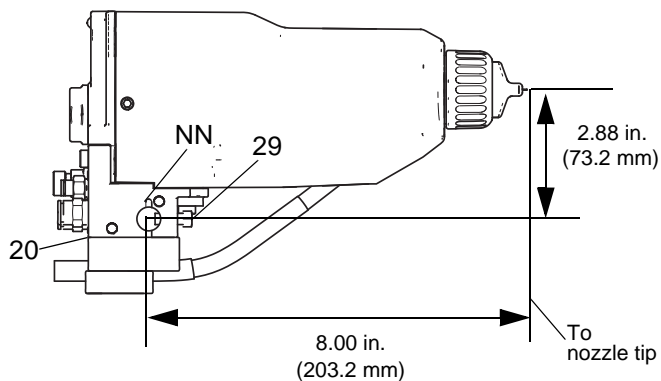

Fig. 4. Mounting
1. Loosen the manifold's two set screws (29) and slide the manifold (20) onto a 1/2 in. (13 mm) mounting rod. See FIGURE 4.
For added positioning reliability, insert a 1/8 in. (3 mm) locating pin into the slot (NN) in the bracket and through a hole in the rod. See the detail in FIGURE 4.